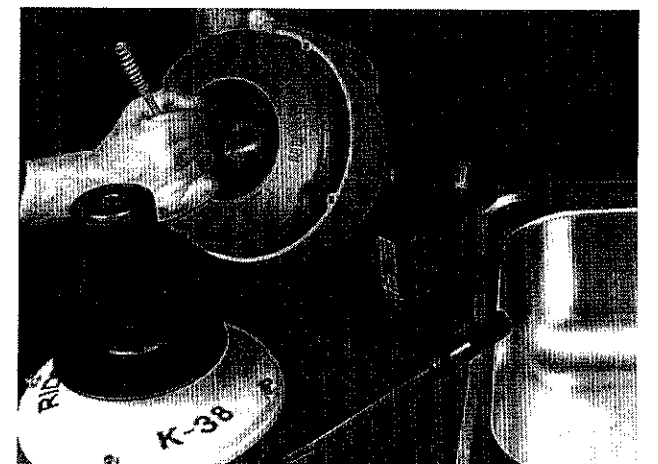

Figure 4. Load inner drum into back half of canister.
4. Fit the new Inner Drum into the Canister's Back Half and draw about a foot of cable out of the Inner Drum. (Fig. 4)